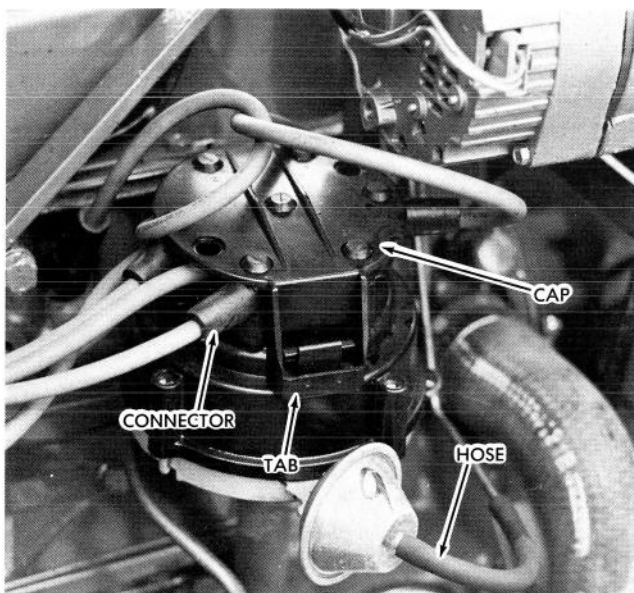

Figure 64
1. Disconnect wiring harness connectors at side of distributor cap (Figure 64).
2. Remove distributor cap and position out of way (Figure 64).
3. Disconnect vacuum advance hose from vacuum advance mechanism (Figure 64).
4. Position distributor cap to housing with tab in base of cap aligned with notch in housing and secure with four latches (Figure 64).
5. Connect wiring harness connector to terminals on side of distributor cap (Figure 64.) Connector will fit only one way.